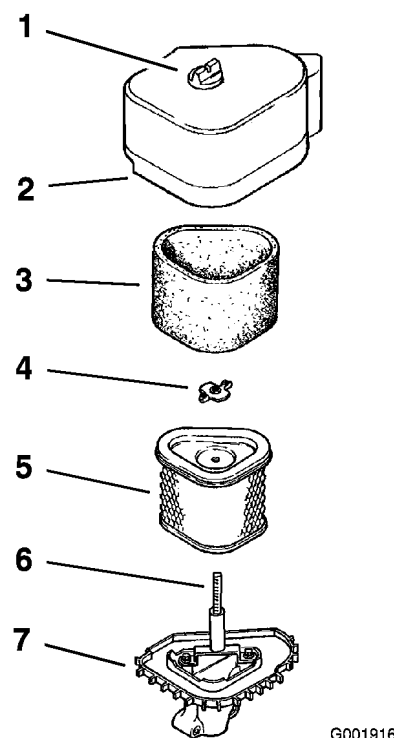

Figure 28
3. Clean around the air cleaner to prevent dirt from getting into the engine and causing damage (Figure 28).
4. Unscrew the cover knob and remove the air cleaner cover (Figure 28).
5. Remove the wing nut and remove the air cleaner assembly (Figure 28).
6. Carefully pull the foam element off the paper element (Figure 28).
1. Do not clean the paper filter. Replace it after 100 operating hours (Figure 28).
1. Carefully slide the foam element onto the paper air cleaner element (Figure 28).
2. Place the air cleaner assembly onto the air cleaner base and secure it with the wing nut (Figure 28).
3. Place the air cleaner cover into position and tighten the cover knob (Figure 28).